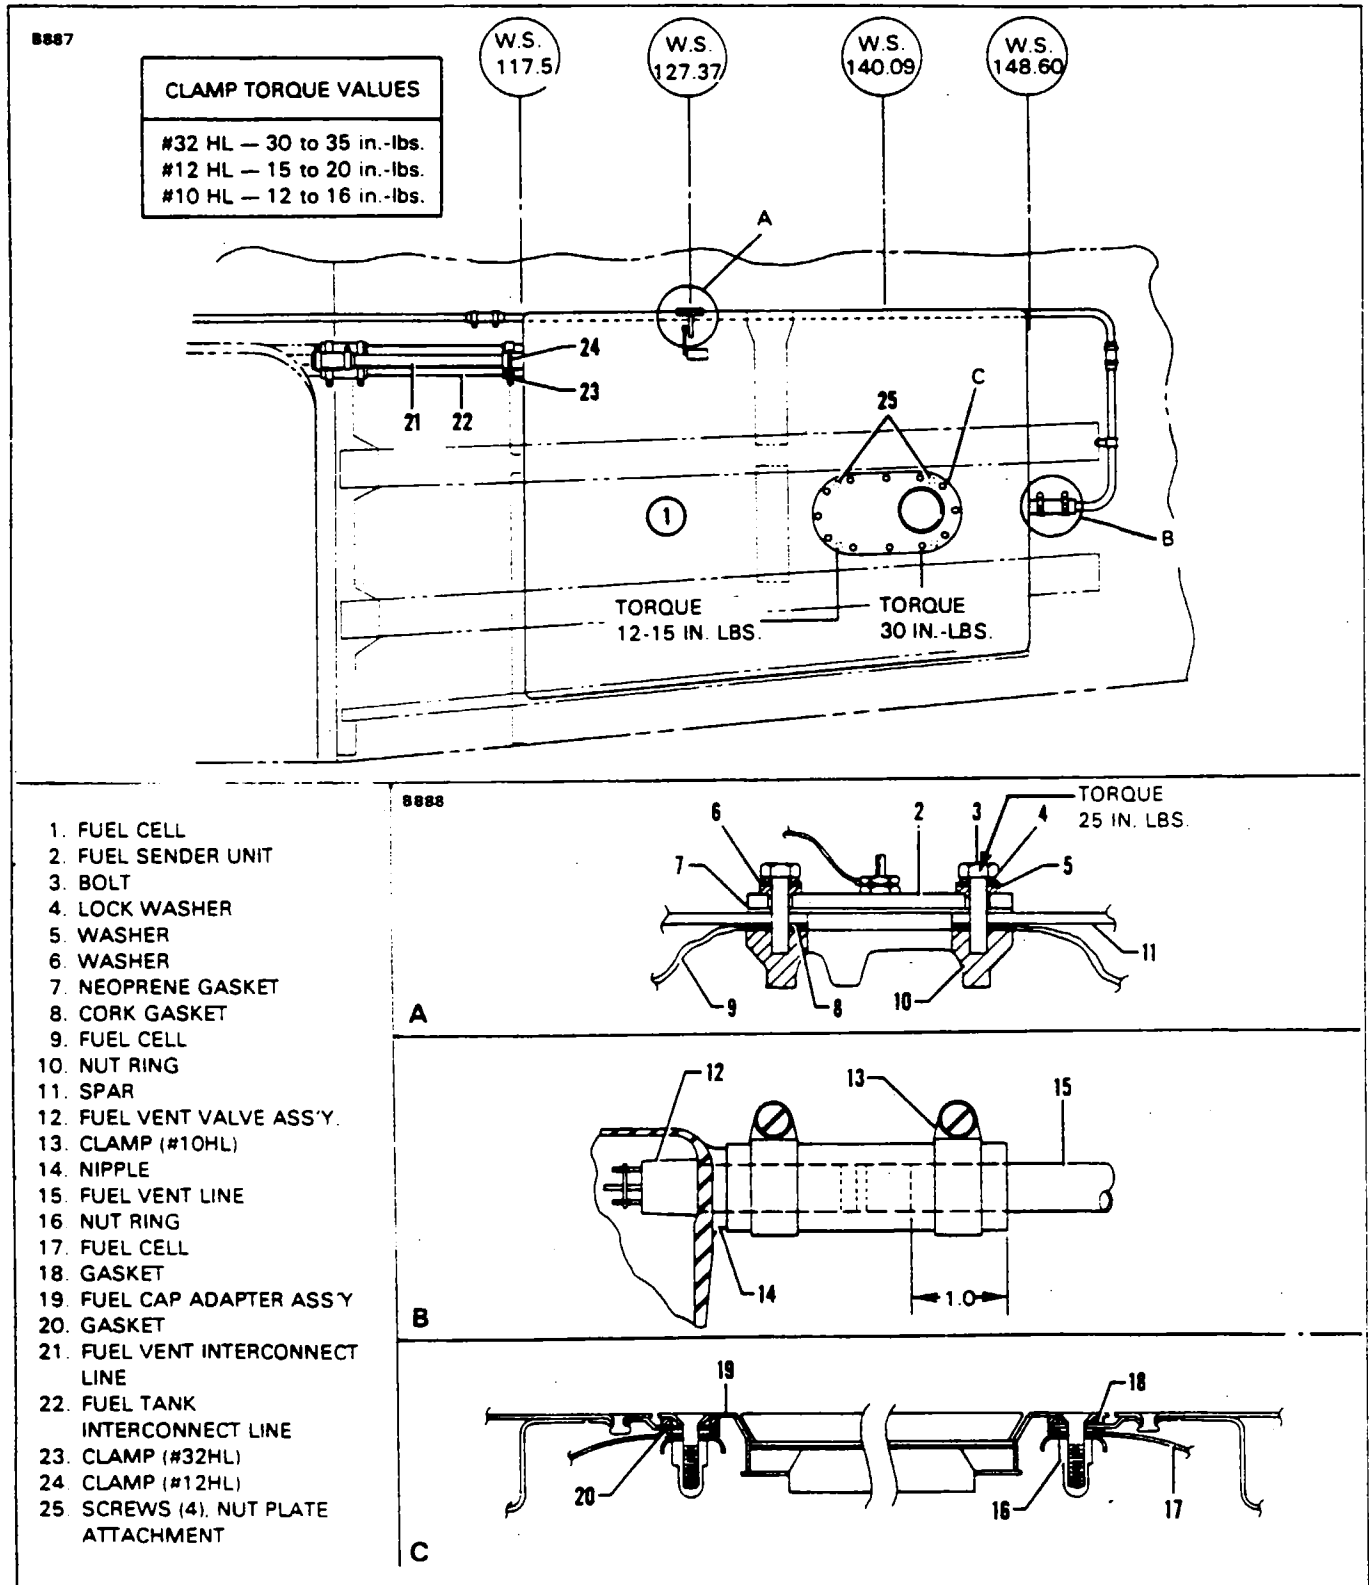

Figure 9-2A. Fuel Cell Installation
- b. Using access hole located on underside of wing, slide hose on interconnecting fuel line and fuel vent line into position and tighten clamps to torque specified in Figure 9-2A.
- b. Using access hole located on underside of wing, slide hose on interconnecting fuel vent line into position and tighten clamps to torque specified in Figure 9-2A.